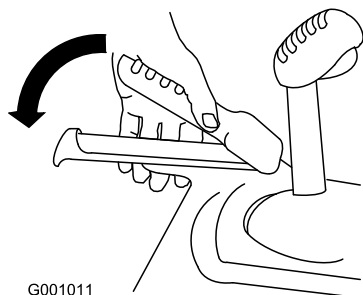

Figure 20
3. Squeeze the left hand (traction) lever to the hand-grip (Figure 20).
6. Squeeze the left hand (traction) lever to the hand-grip (Figure 20).